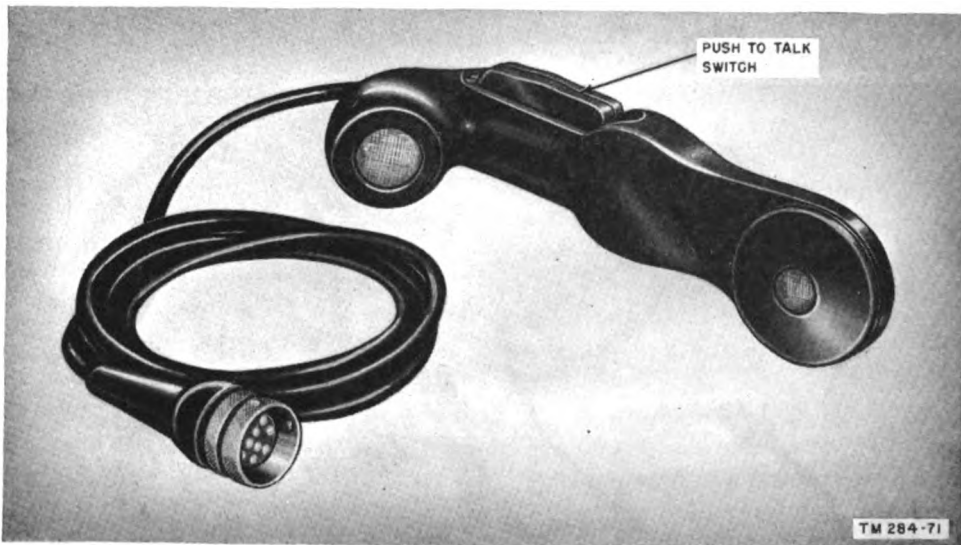

Figure 15. Handset H-33/PT.
e. HANDSET H-33/PT. Handset H-33/PT (fig. 15) is a combination microphone and a receiver with a push-to-talk switch and connecting cord. The microphone impedance is 40 ohms; the receiver impedance is 300 ohms. The push-to-talk switch provided consists of two electrically independent SPST switches. The cord is 5 feet long and is terminated in a 10-pin audio connector which will mate with the audio connectors on the receiver-transmitter, the interphone amplifier, and the control units.